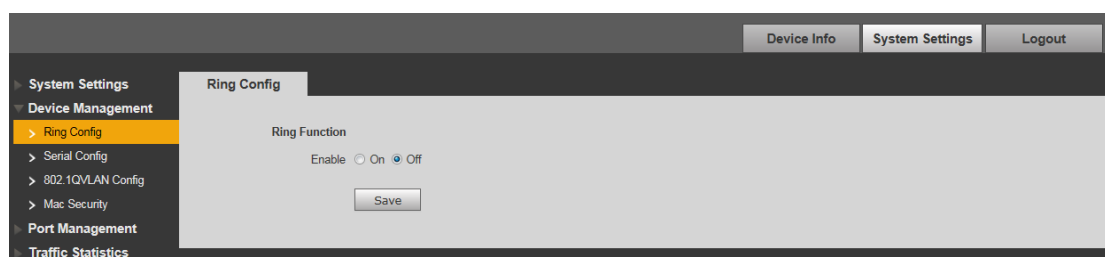

Figure 3-9
Step 1 Connect cable according to the ring mode which is shown in Figure 3-9.